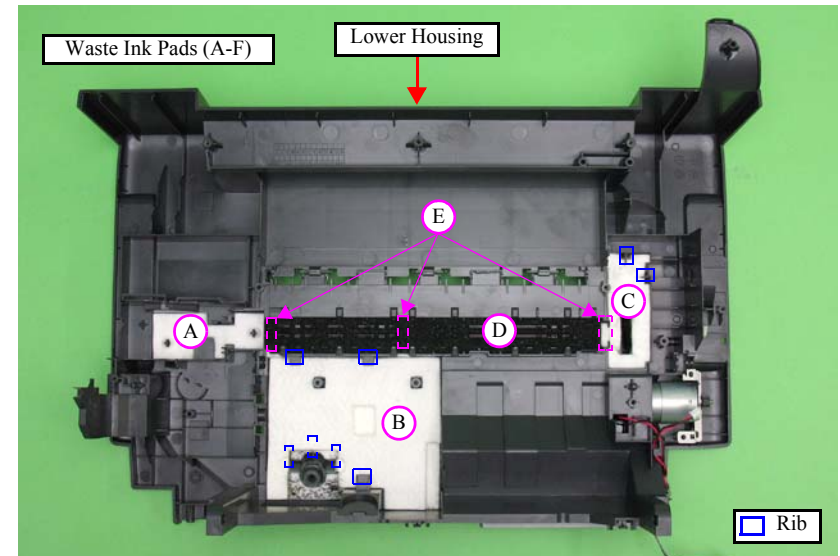

Figure 4-99. Removing the Waste Ink Pads
- When installing the Waste Ink Pads, align the ribs of the Lower Housing with the notches of the Waste Ink Pads. (See Fig.4-99.)